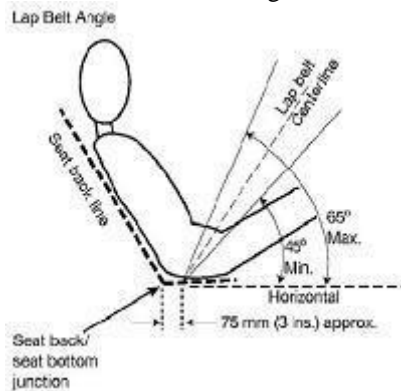

Figure 12
**B10.3.1** The lap belt must pass around the driver's pelvic area below the Anterior Superior Iliac Spines (the hip bones – Fig.12). The lap belt must not be worn over the driver's intestines or abdomen. In side view, the lap belt must be at an angle of between 45 degrees and 65 degrees to the horizontal (Fig. 12). This means that the centerline of the lap belt at the seat bottom should be approximately 76 mm (3 in.) forward of the bottom of the seat back. The lap belt halves must run directly from the driver's hips to their mounting points without redirection by any part of the vehicle or its equipment(including the seat). The lap belt halves must be mounted to frame tabs using the bracket supplied with the safety harness